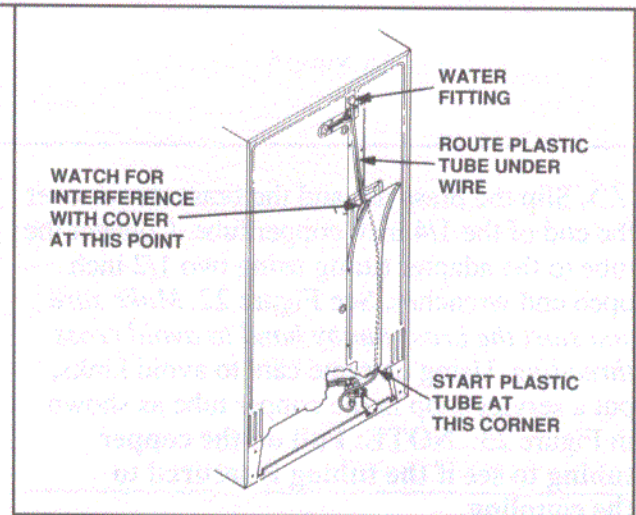

Figure 19
22. Work the plastic tube up under the sheet metal cover on the back of the refrigerator or freezer, then in behind the wire harness and up to the water fitting. See Figure 19. Note that the tube must be inserted into the bottom of the sheet metal cover at the lower right corner, as you face it.